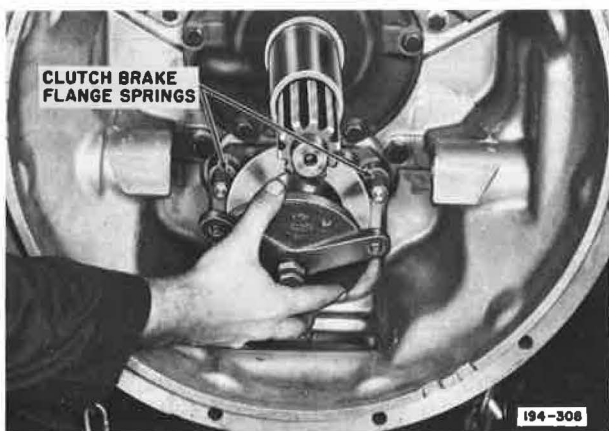

Figure 5-187. Installing Clutch Brake Pressure Plate
32. Install clutch brake flange springs on cover pins, then install clutch brake pressure plate. See Figure 5-187.